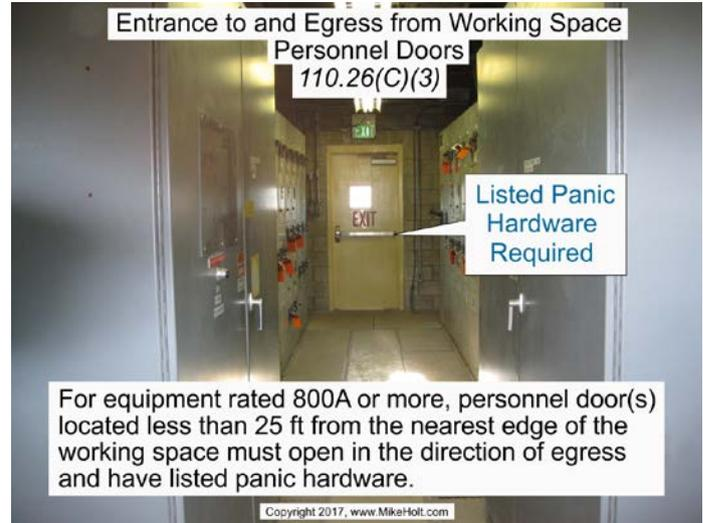

Figure 110-42
**(3) Personnel Doors.** If equipment with overcurrent or switching devices rated 800A or more is installed, personnel door(s) for entrance to and egress from the working space located less than 25 ft from the nearest edge of the working space must have the door(s) open in the direction of egress and be equipped with listed panic hardware. Figure 110-42